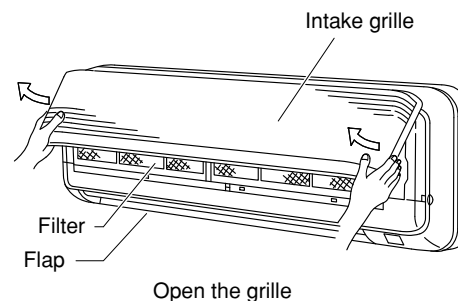

Fig. 3-53
- (1) Lift up on both sides of the air-intake grille to open it. (Fig. 3-53)
- (2) Remove the filter. (Fig. 3-53)